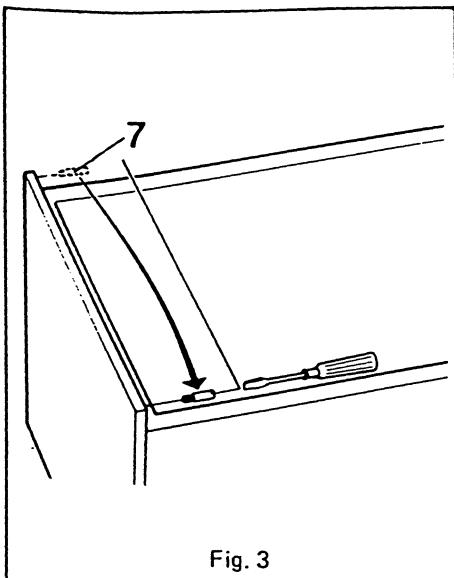

Fig. 3
2. Gently lay the refrigerator on its back. Remove both front feet by taking out the screw and washer(5) from the centre of the small foot, and both screws and washers from the large foot (The large foot and hinge blade will become detached as a complete assembly).
4. Unscrew the upper hinge pin (7 , fig.3) and transfer it to the opposite side.
6. Remove the screw (2) securing the metal casting (1) to the bottom of the door then prise out the casting (1) from the door.